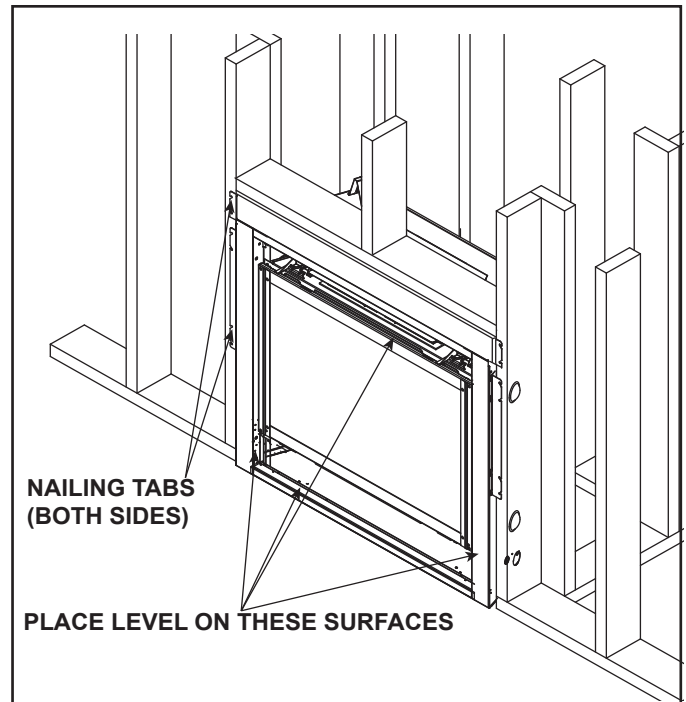

Figure 6.14 Proper Positioning and Securing of an Appliance
The diagram shows how to properly position and secure the appliance. See Figure 6.14. Nailing tabs are provided to secure the appliance to the framing members.
- Place a level on top, sides and bottom as shown in Figure 6.14.